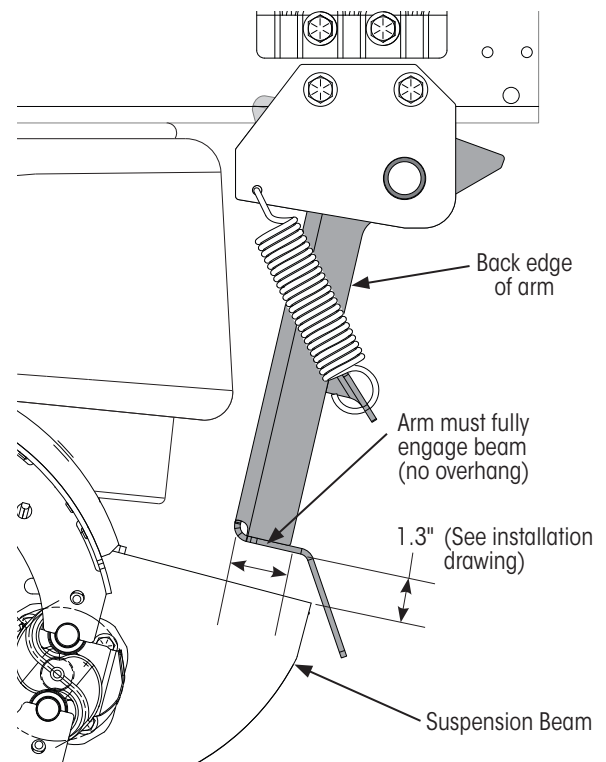

Figure 14: Checking arm-to-beam clearances
12. With the suspension at the designed ride height, **measure** the distance from the top of the beam to the bottom of the arm (Figure 14). An acceptable measurement is 1.3" (33 mm).
13. Check the arm position relative to the beam (Figure 14). The arm must have full engagement with the beam. In other words, the back edge of the arm must be entirely positioned over the top surface of the beam (ignore the beam side surfaces when checking arm position).